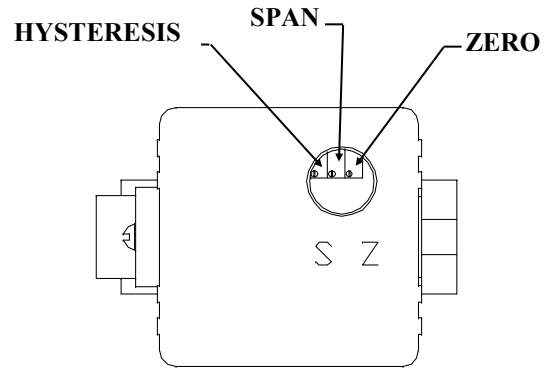

Figure 1
4. Locate the plastic calibration access cap on top of the BVQBS valve and completely remove it. Located underneath are two adjustment trimpots, Zero "Z" and Span "S". See figure 1 for pots location.
12. If at any time during the calibration procedure the BVQB control valve oscillates or becomes unstable for more than one second, turn the HYSTERESIS potentiometer (see Figure 1 for location) counter-clockwise until the oscillation stops, then turn it one more complete turn (same direction).
8. If at any time during the calibration procedure the BVQB control valve oscillates or becomes unstable for more than one second, turn the HYSTERESIS potentiometer (see Figure 1 for location) counter-clockwise until the oscillation stops, then turn it one more complete turn (same direction).